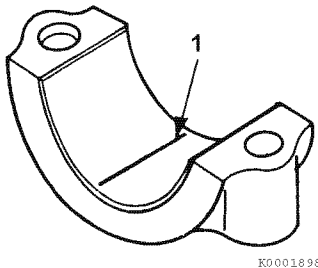

Figure 6-59
6. Place a piece of PLASTIGAGE® (**Figure 6-59, (1)**) along the full width of the bearing insert.